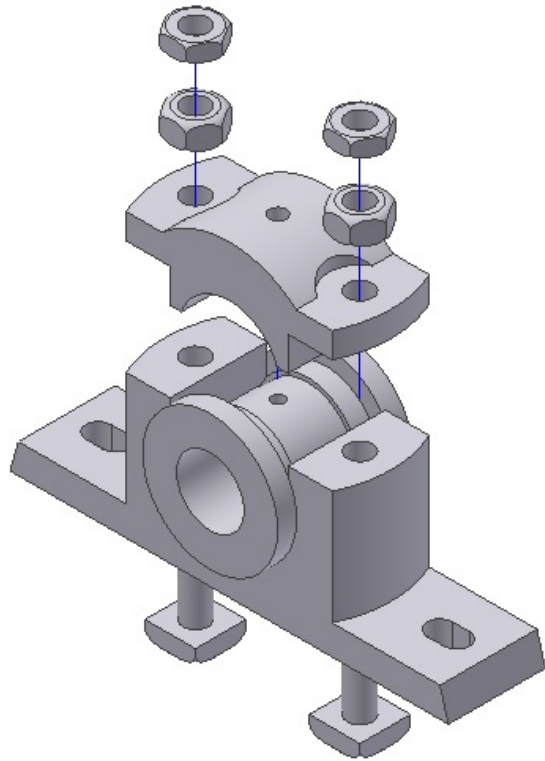

Figure 13-18 Exploded assembly
- Manually explode the assembly in four sequences. The first sequence will tweak the two Bolts and the second sequence will tweak the Cap, Lock Nuts, and Nuts. The third sequence will tweak the Lock Nuts. The final sequence will tweak the Nuts, refer to Figure 13-18.
You will notice that the triad, which was displayed in the assembly, is removed from the drawing window. The assembly after creating four tweak sequences is shown in Figure 13-18.